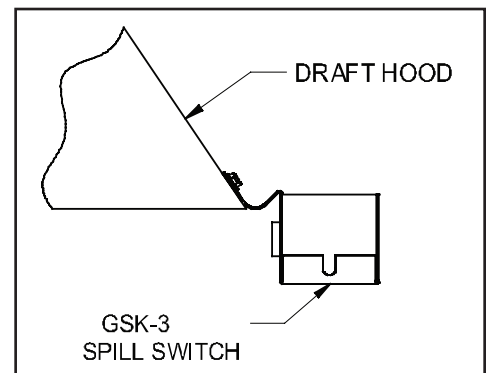

Figure 4
1. Mount spillage switch on the draft hood. (See Figure 4)